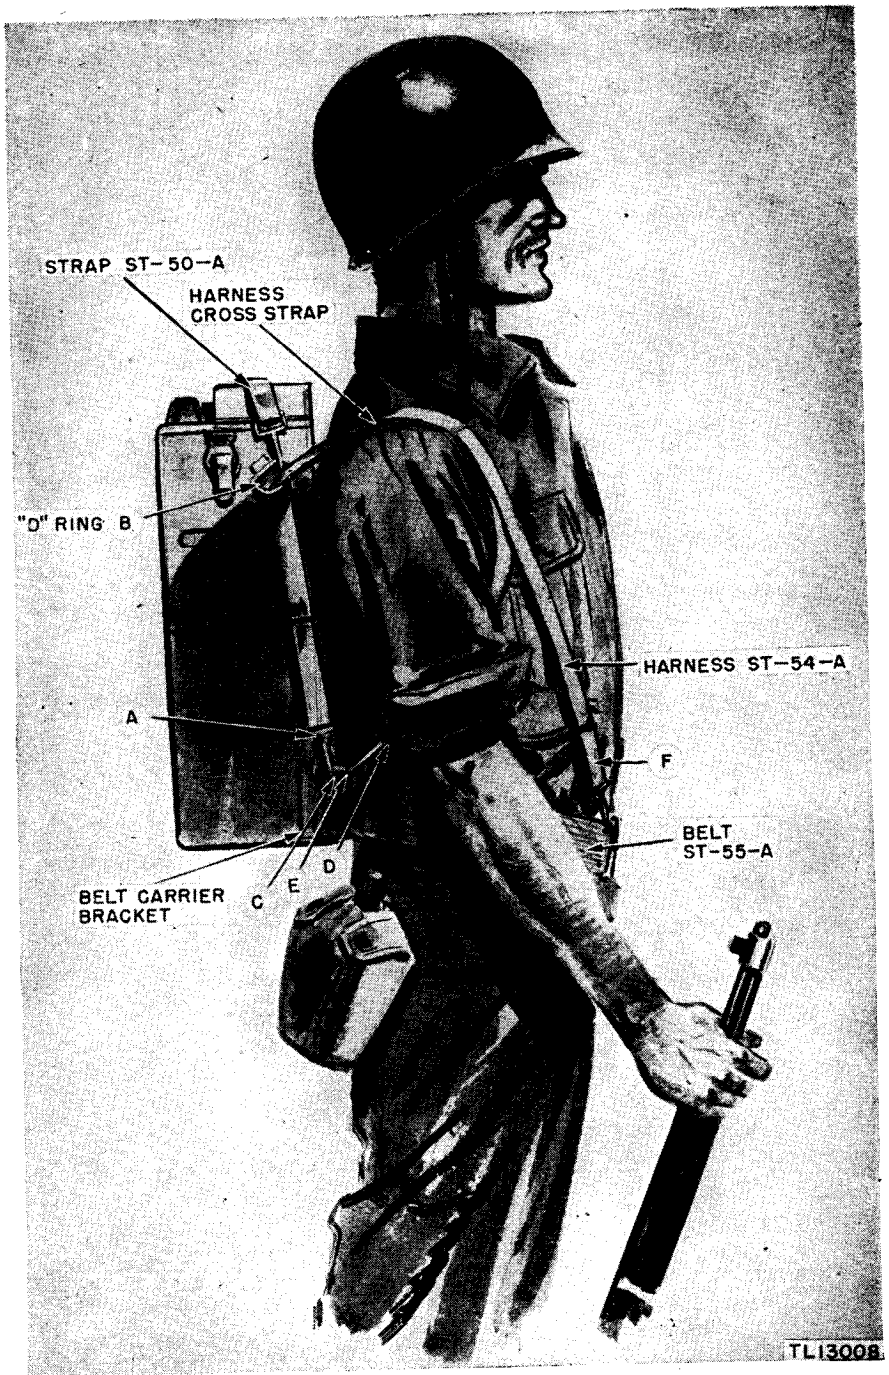

Figure 13. Radio Set SCR-300-A, Harness ST-54-A and Belt ST-55-A, installation detail.
c. HARNESS ST-54-A. Slip the snap hooks (a) and straps (one each side) through the "D" rings (b) and clip to the center hole (c) of the belt carrier bracket. (See fig. 13.) Attach the other ends (d) of these same straps to the holes (e) (farthest away from the set) of the belt carrier bracket. Be certain that the snaps are not twisted. The other straps (f) with snap hooks are left free until the set is placed on the operator's back. Slide buckles on all straps provide length adjustments as required.
d. STRAP ST-50-A. To install this strap, connect the two snap hooks to the D-rings (b) as shown in figure 13. When it is necessary to
The equipment is mounted on the operator's back (fig. 13) as follows: